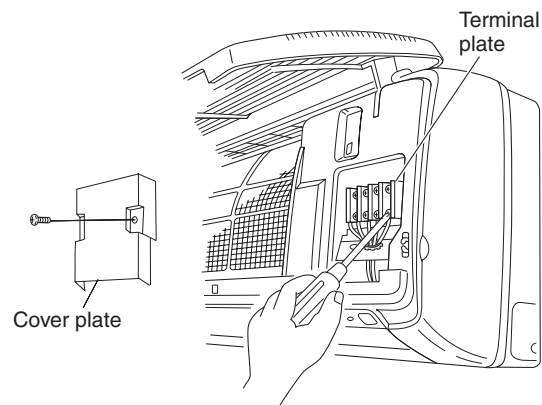

Fig. 1-78a
- (2) Route the inter-unit wiring from the back of the indoor unit and pull it toward the front for connection. (Figs. 1-78a and 1-78b)
- (3) Connect the inter-unit wiring to the corresponding terminals on the terminal plate (Figs. 1-78a and 1-78b) while referring to the wiring diagram.
- (4) Be sure to secure the wiring with the provided clamp.
- (1) Using a Phillips head screwdriver, remove the screw on the cover plate. (Figs. 1-78a and 1-78b)
- (2) Remove the cover plate.